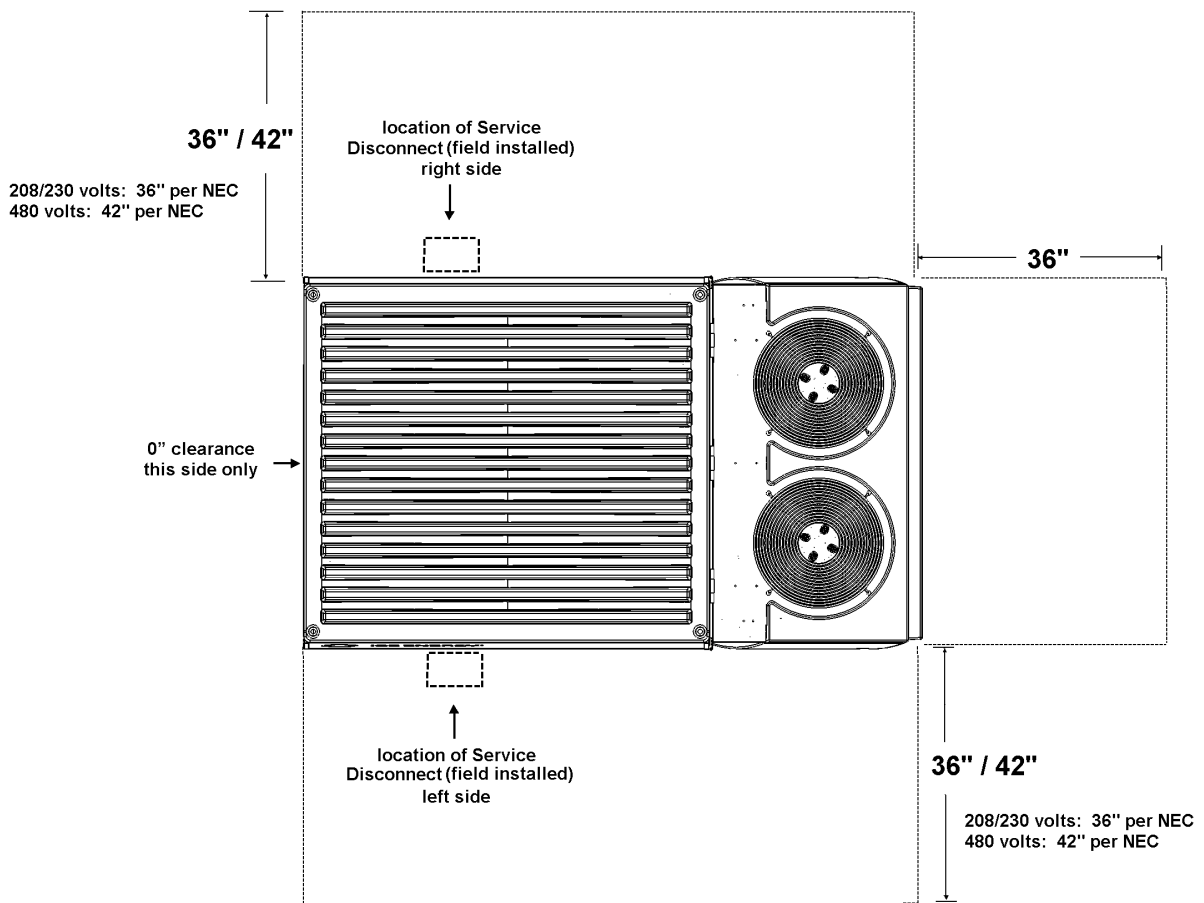
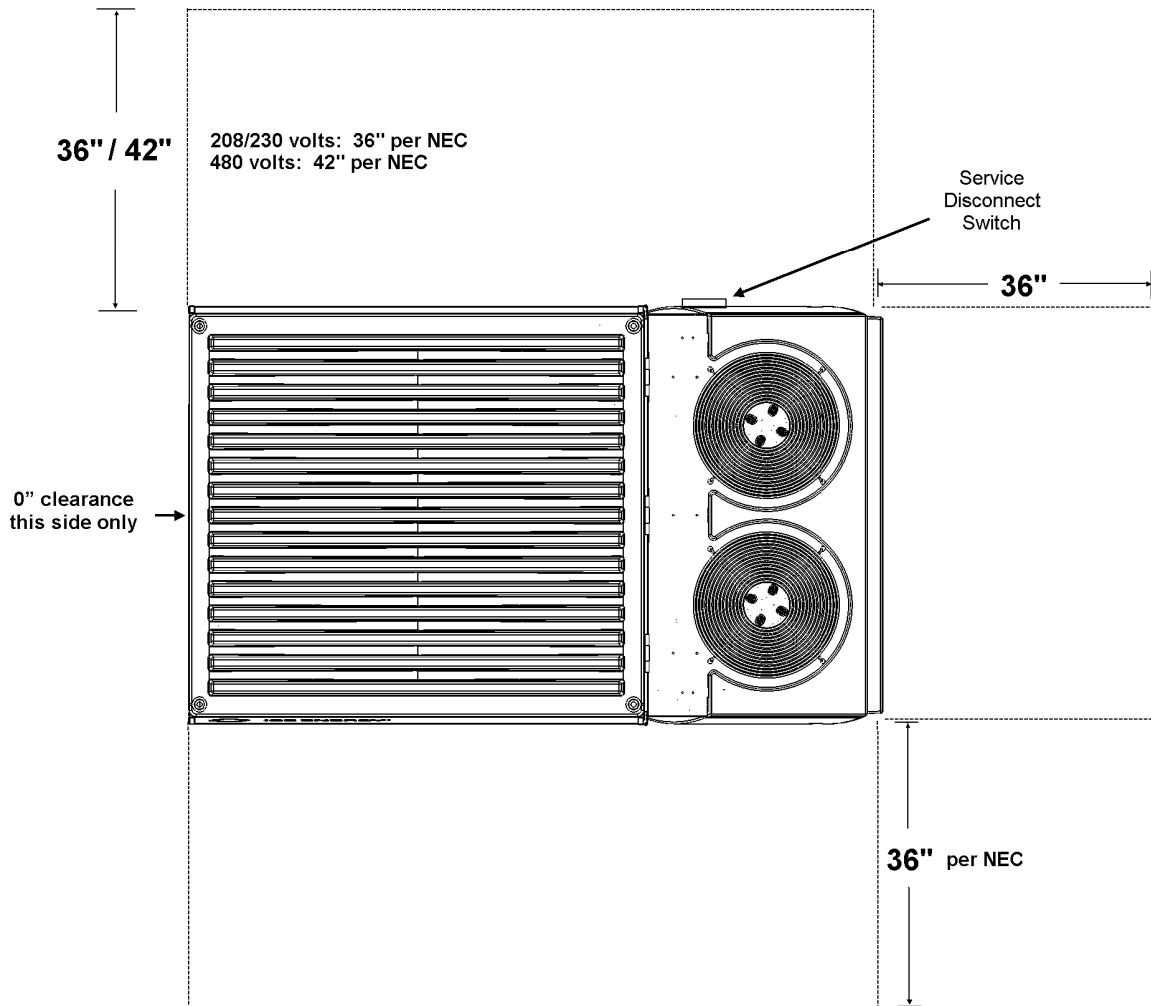

Figure 12 – Minimum Clearances for Unit-mounted Service Disconnect
Figure 13 – Minimum Clearances for Units with Internal Service Disconnect Switch
In addition to the minimum clearances depicted in the figures below, ensure that a 60" vertical clearance exists to provide for proper CONDENSER FAN operation. Note that Figure 12 covers clearances for ICE BEAR UNITS with a unit-mounted SERVICE DISCONNECT SWITCH. For ICE BEAR UNITS with an internal SERVICE DISCONNECT SWITCH (located in the ELECTRICAL CONTROL BOX), refer to Figure 13.
- See Figure 12 and Figure 13 for minimum access clearances.